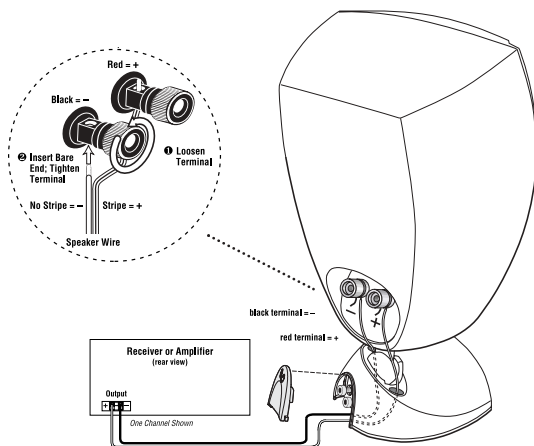

FIGURE 10 – Wiring diagram shows polarity connections for one channel of a home theater system.
3. Run speaker wires in through the rear of the base and up through the speaker wire holes on the left and right sides of the cup restraint (see page 5, Figure 10 for wire connections).
Observe polarities when making speaker connections, as shown in Figure 10. Connect each + terminal on the back of the amplifier or receiver to the respective + (red) terminal on each speaker. Connect the – (black) terminals in the same way.
Observe polarities when making speaker connections, as shown in Figure 10. Connect each + terminal on the back of the amplifier or receiver to the respective + (red) terminal on the speaker. Connect the – (black) terminals in the same way.